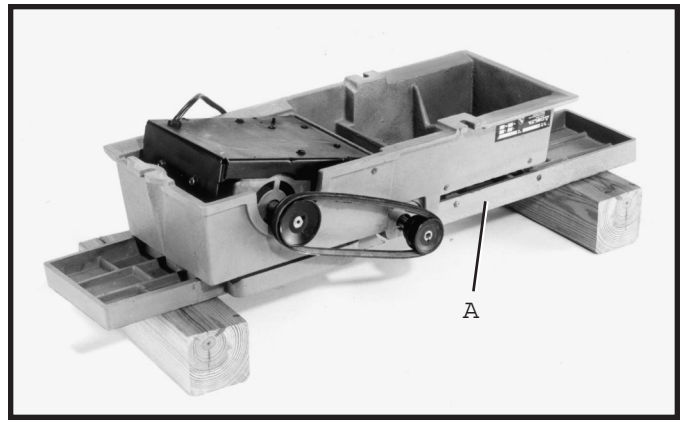
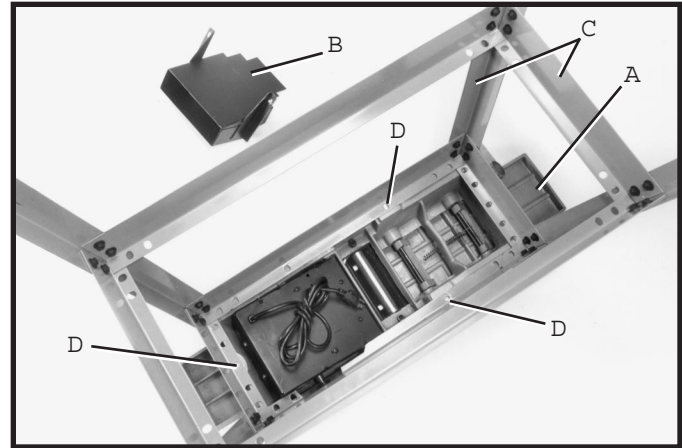

Fig. 7
Fig. 8
1. Carefully turn the jointer (A) Fig. 7, upside-down so the table is resting on a supporting surface similar to the two pieces of 4 x 4 lumber as shown. This will facilitate the assembly of the dust chute (B) Fig. 8, and stand (C) to the jointer.
2. Align the three mounting holes (D) Fig. 8, in the stand with three mounting holes in the base of the jointer as shown in Fig. 8.